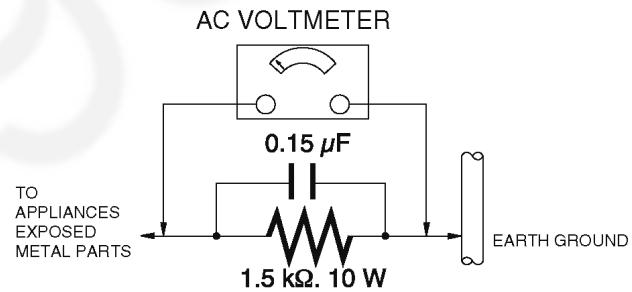

Figure. 1
## 1.3. Leakage Current Hot Check (See Figure 1.)
2. Connect a  $1.5k\Omega$ , 10W resistor, in parallel with a  $0.15\mu F$  capacitor, between each exposed metallic part on the set and a good earth ground, as shown in Figure 1.